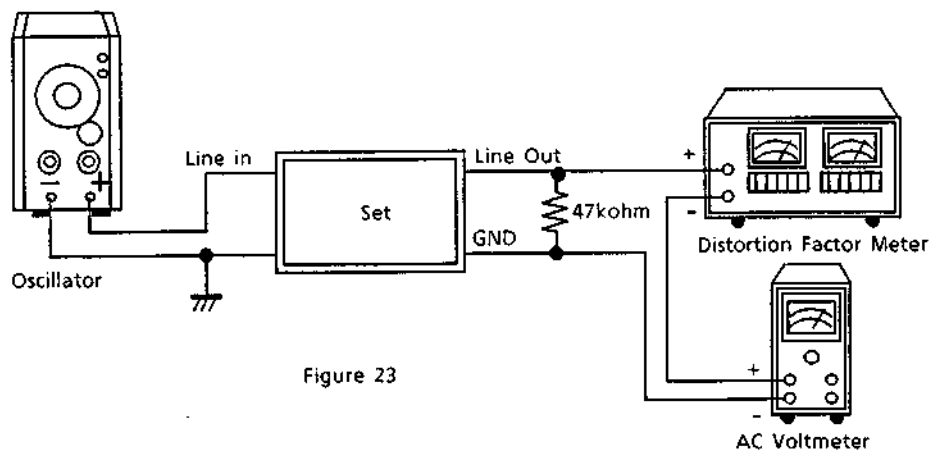

Figure 23
- (1) After having finished the HX coil peak adjustment described in Item 9, temporarily adjust VR5071 (VR5072) so that the TP5005 (TP5006) output becomes 65mV.
- (2) Make the connections as shown in Figure 23, input  $400\text{Hz} / 150\text{mV} \pm 2\text{dB}$  (oscillator output) to the line input, insert the metal tape (TDK AC-712) into deck B and record on it. (Set the REC LEVEL volume to the maximum.)
- (3) Adjust VR5001 (VR5002) so that the line output L(R) becomes 550mV with a distortion of 1 to 2% when the recorded section is played back.